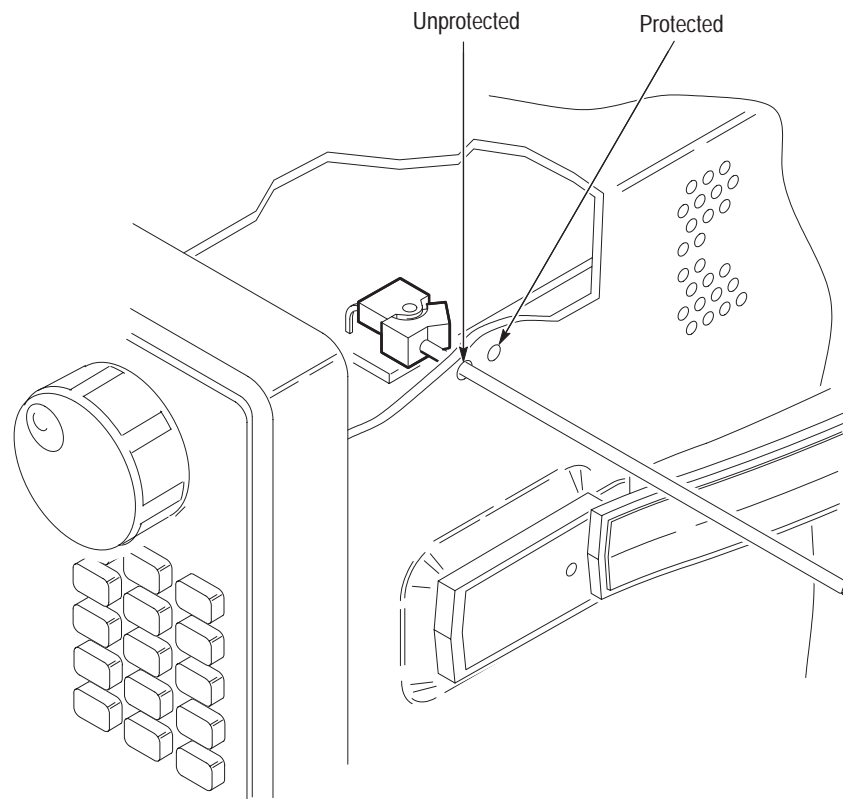

Figure 5-1: Accessing the protection switch
- c. Push to rock the switch to its unprotected (enabled) position. See Figure 5-1.
- a. Locate the two small access holes on the right side of the oscilloscope cabinet near the front. (See Figure 5-1.)